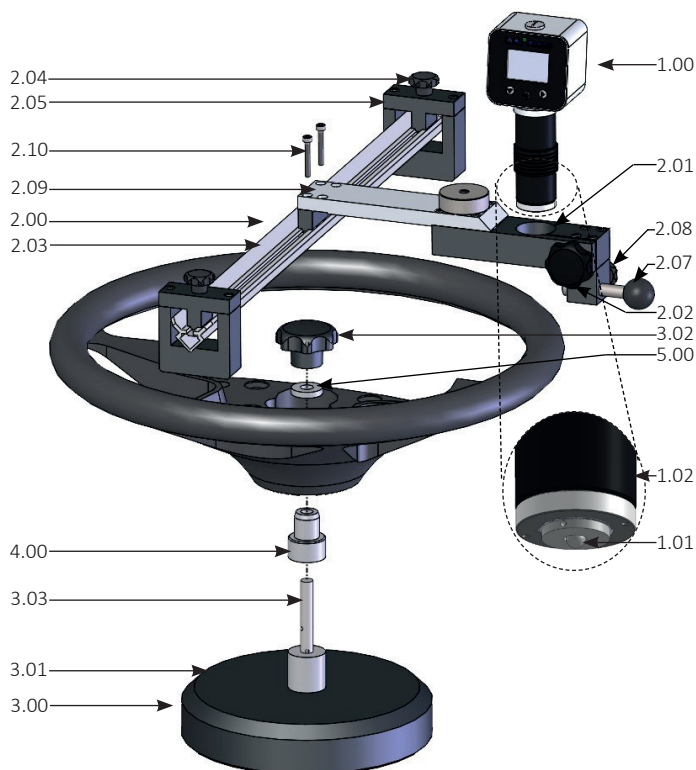

Fig. 1 Overview of measuring instrument elements
- › Place the holder (3.01, Fig. 1) on a stable surface.
- › Unscrew the star wheel (3.02, Fig. 1).
- › Slide the matching adapter sleeve (4.00, Fig. 1) onto the mounting spindle (3.03, Fig. 1).
- › Slide the washer (5.00, Fig. 1) onto the mounting spindle.
- › Loosen the star wheel (2.02, Fig. 1) of the loading device (2.09, Fig. 1) and push the hardness tester (1.00, Fig. 1) as far as the stop (1.02, Fig. 1) into the holder (2.01, Fig. 1) of the centring device (2.00, Fig. 1).